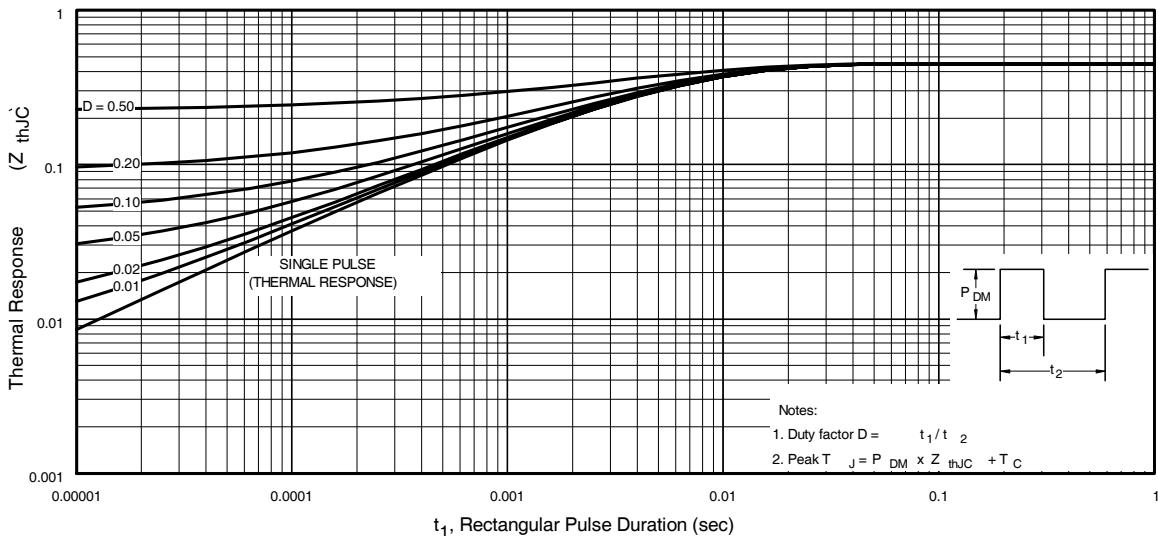

Fig 11. Maximum Effective Transient Thermal Impedance, Junction-to-Case
- ① Repetitive rating; pulse width limited by max. junction temperature. (See fig. 11).
Z_{thJC}(D, t_{av}) = Transient thermal resistance, see figure 11)